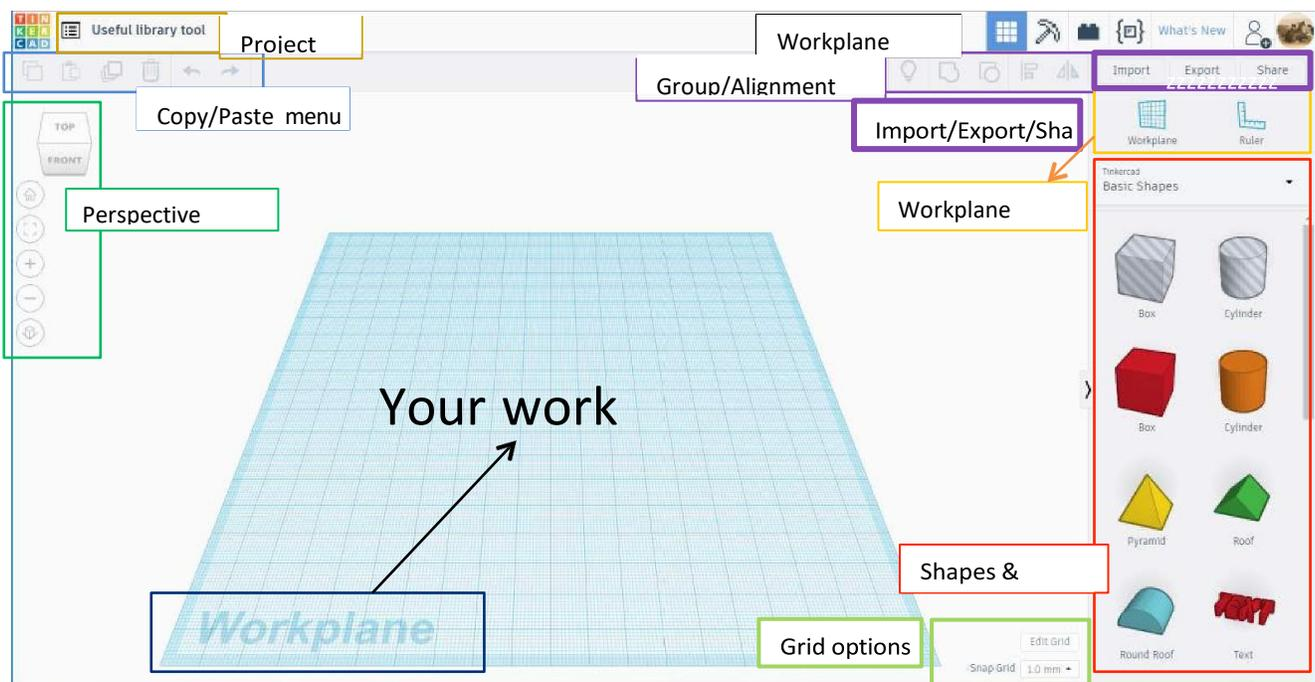

Fig 2.5 Tinkercad Workspace
**Tinkercad workspace overview** (shown in Fig. 2.5)